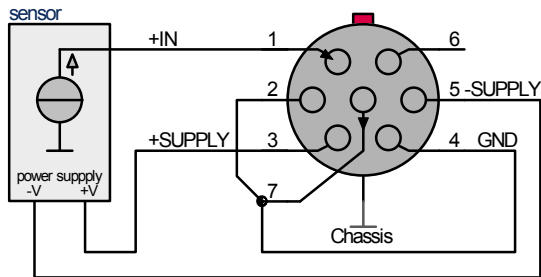

fig.3
- Sensors with three-wire connection (bipolar supply) can supply signals of both polarity 0 mA/4 mA ... 20 mA current loop. The signal has both polarities. fig. 3